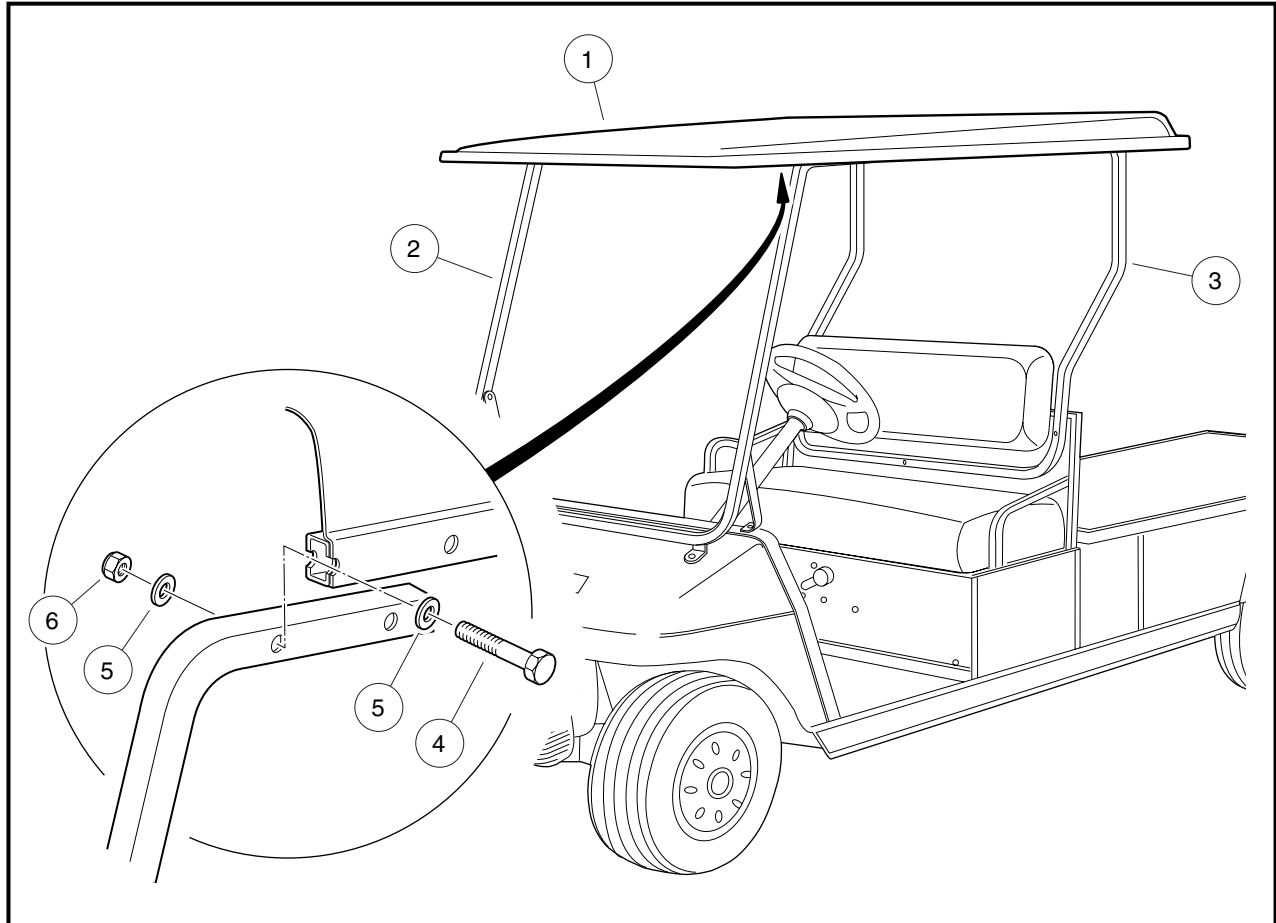

Figure 7 Canopy Installation
- 5.1. Place the canopy (1) on the windshield frame (2) and rear supports (3). Align the holes in the canopy with the holes in the windshield frame and rear supports (**Figure 7**).
- 5.2. Secure the canopy loosely to the windshield frame and rear supports with eight 1/4-20 x 2-3/4 hex-head bolts (4), sixteen washers (5), and eight lock nuts (6) (**Figure 7**).